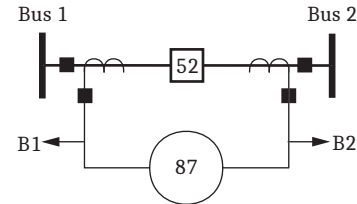

Figure 14 Two CTs Configured With a Differential Element Across the Breaker
- Two CTs configured with a differential element across the breaker (Figure 14)